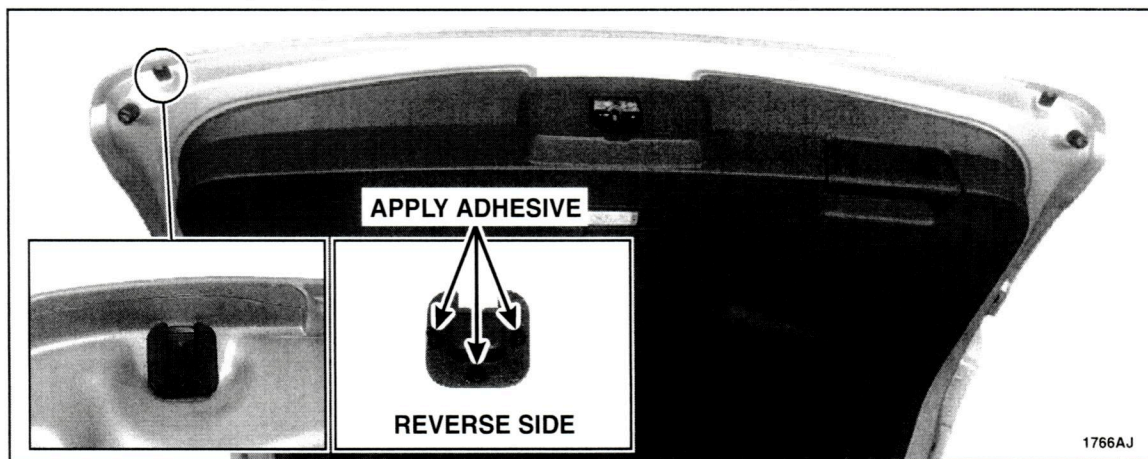

FIGURE 6
2. Apply a drop of Motorcraft® Instant Gel Adhesive TA-19-C or equivalent near the retention tab as shown. Install the *new* liftgate drain valves and hold the part in place for the period of time listed in the instructions on the package to allow the adhesive time to set. See Figure 6.